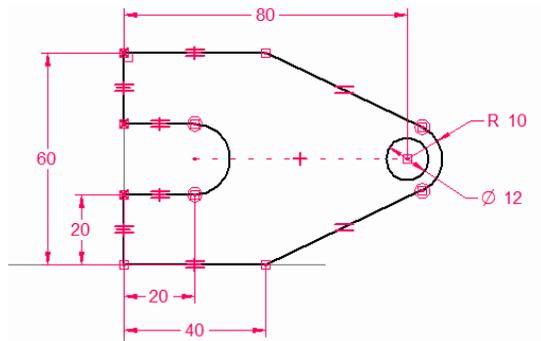

Figure 3-44 Profile after adding all dimensions
- e. Add the required relationships and dimensions to the sketch, refer to Figure 3-44.
This completes the dimensioning of the profile. The profile after adding all required dimensions is shown in Figure 3-44.